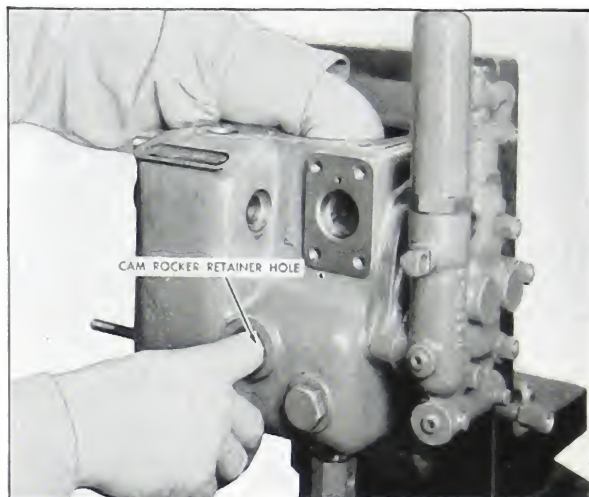

Fig. 5-137. Checking cam rocker lever action
9. Check the cam rocker lever to see that it rocks freely (Fig. 5-137) and that it has at least .006" end thrust. If the lever does not rock freely, it will affect the fuel pump delivery.